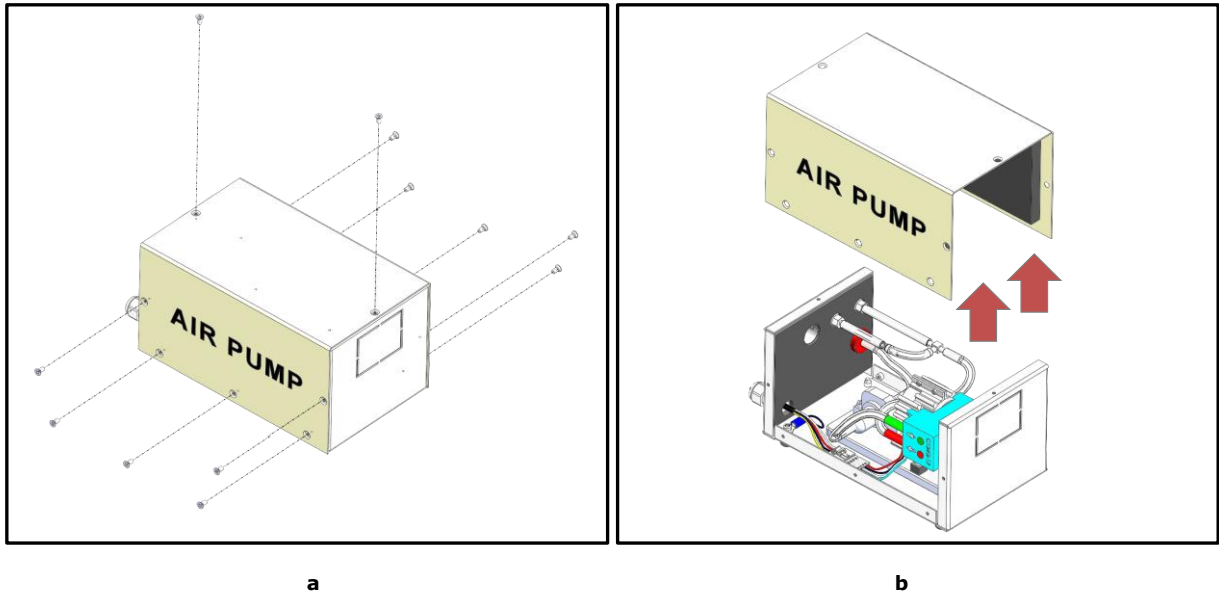

Figure 58. OKO-AP-3L cover disassembly. (a) Screws removal. (b) Cover lifting.
1. Use a screwdriver for loosening the socket head cap screws (M3x6, see Figure 58, a) on the OKO-AP-3L cover panel and lift it paying attention not to damage the other components of the unit (See Figure 58, b).